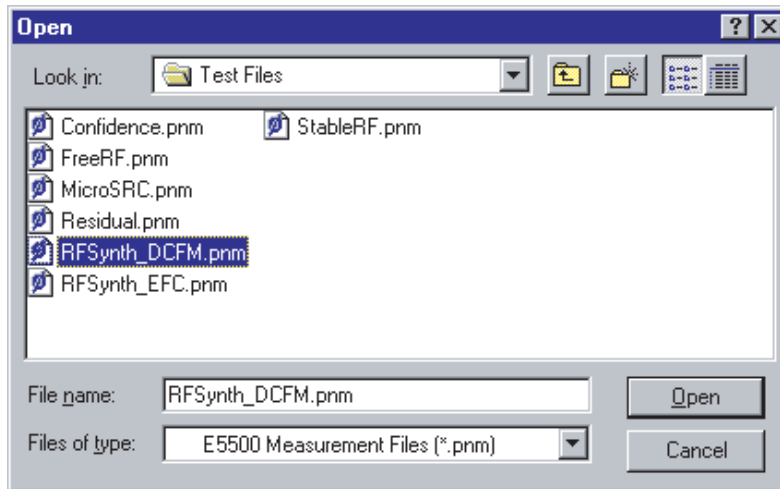

Figure 97 Select the parameters definition file
- 3 In the **File Name** box, choose **"FreeRF.pnm"**. See Figure 97.